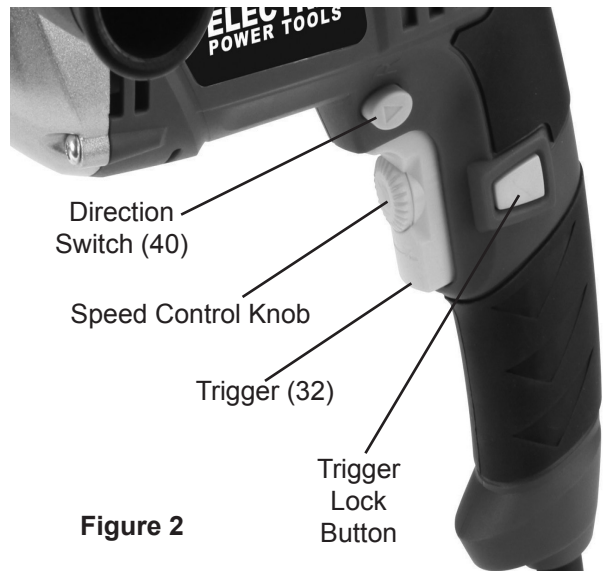

Figure 2
2. Set Direction Switch (40) to correct position. For clockwise (forward) rotation, push it from left side (Switch surface is marked with "R"). See Figure 2, below.
6. To adjust the drilling speed, rotate the speed control knob located in the center of the Trigger. Turn clockwise to increase speed and counterclockwise to decrease speed. See Figure 2.
7. For continuous drilling, press Trigger, then Trigger lock button on side of handle, and release Trigger. To release lock, depress Trigger. See Figure 2.